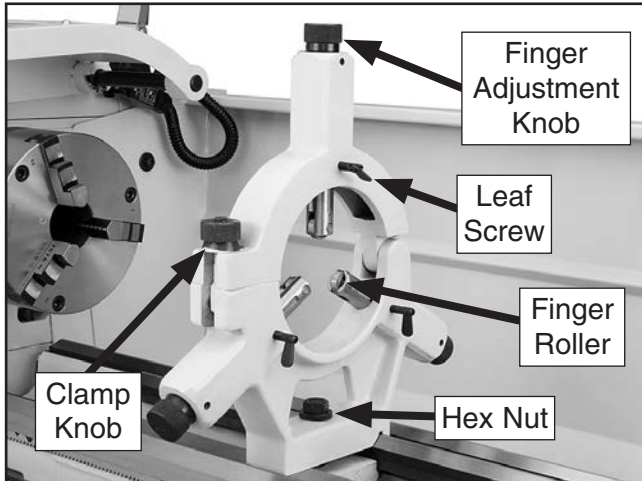

Figure 56. Steady rest components.
Familiarize yourself with the steady rest components shown in **Figure 56** to better understand its operation.
3. Position the steady rest where required to properly support the workpiece, then tighten the hex nut shown in **Figure 56** to secure it in place.